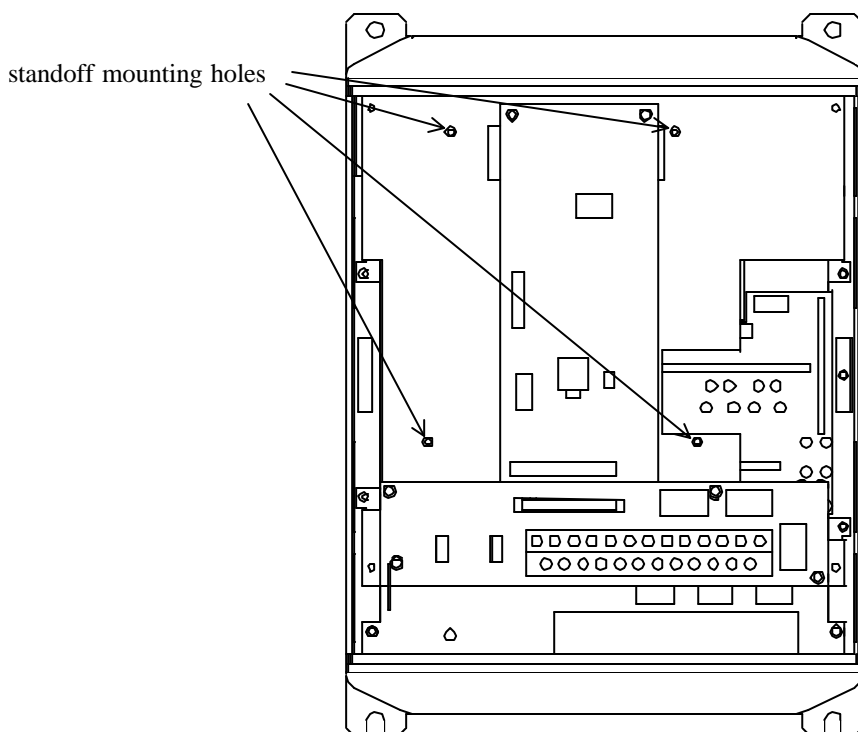

Figure 2: *G3 with front cover and operation panel support bracket removed*
8. Install the 4 nylon standoffs into the holes provided in the control board support bracket (refer to Figure 2).